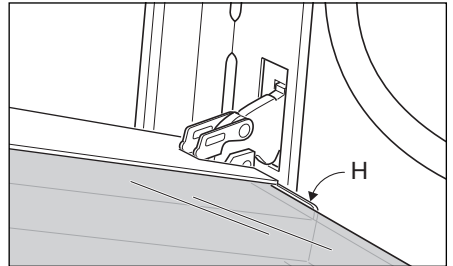

Fig.24c
- Insert the pane in the left "E" and right "F" slide guides, and gently slide it to the retainers "H" (Fig. 24c).